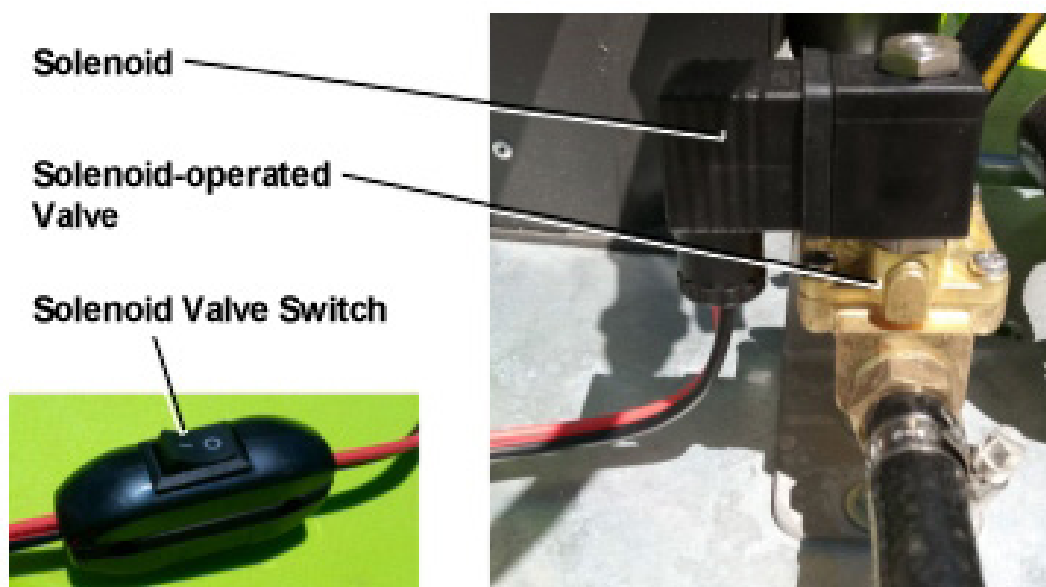

Figure 8 – Solenoid Operated Spray Boom Valve and Remote Switch
- From the vehicle's driver's seat, open the valve to the spray boom by turning the solenoid valve remote switch to ON (refer to Figure 8). The fluid will now start to discharge from the boom spray nozzles.